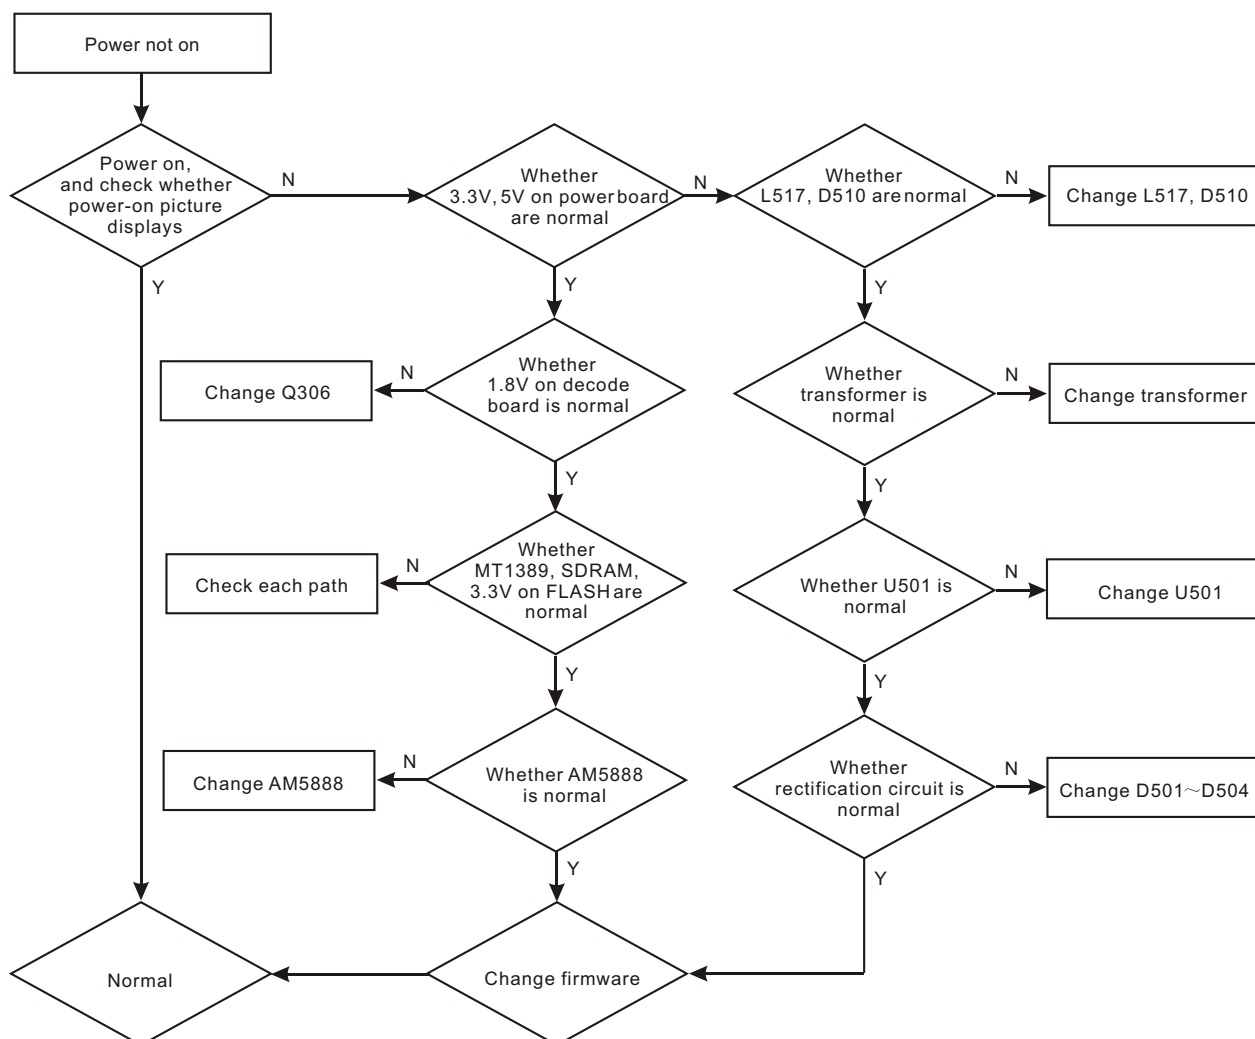

Figure 3.3.2.1 Troubleshooting flow chart for “Power not on”
1. Troubleshooting process for “Power not on” is shown in the figure 3.3.2.1:
2. Troubleshooting process for “Not start up” is shown in the figure 3.3.2.2: